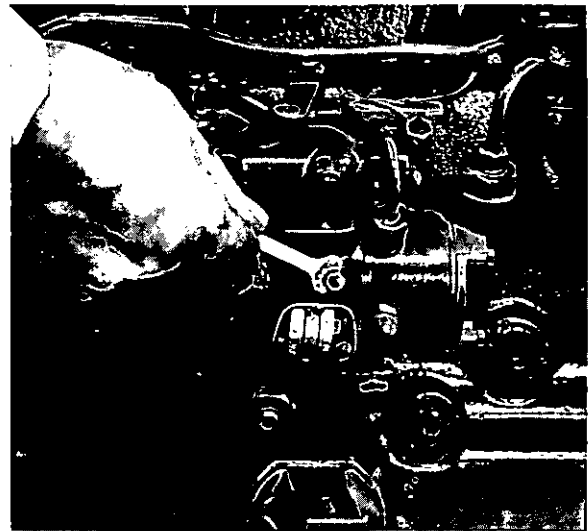

Fig. L.4
2. Slacken vent screw fitted in hydraulic head locking screw on side of fuel pump body (Fig. L.4).